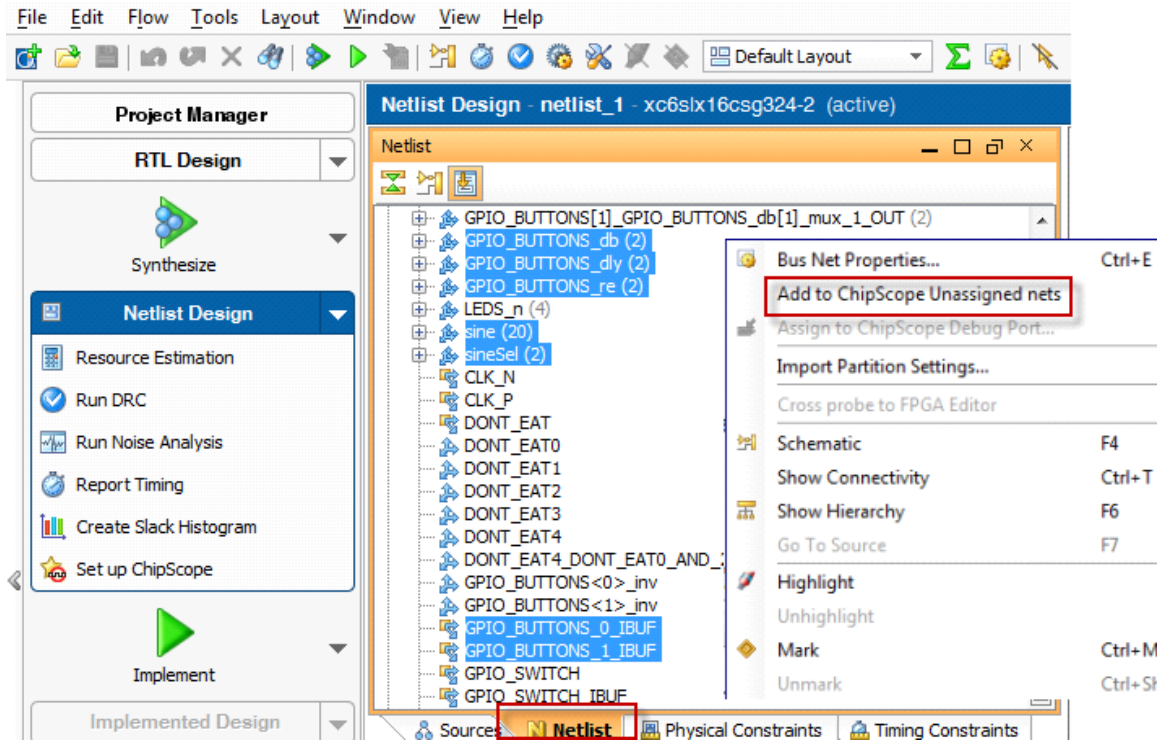

Figure 3: Adding Nets from the Netlist Tab
4. Select the following nets for debugging (also shown in Figure 3):
The steps above are illustrated in Figure 3.